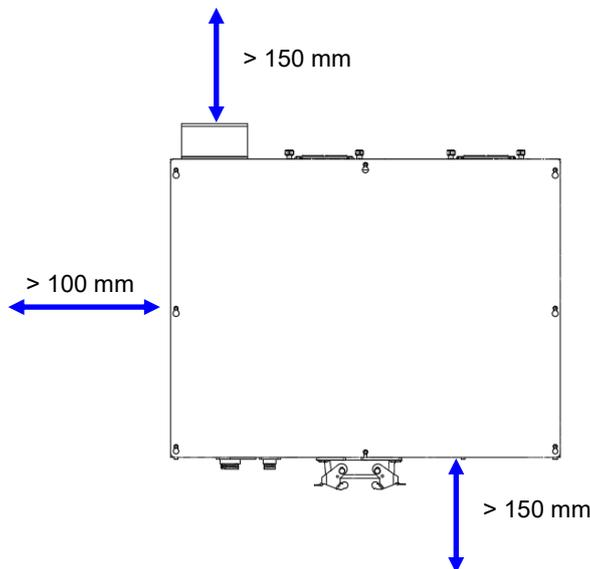

Figure 2.7 Controller installation distance
2. The ventilation holes must not be blocked during installation; please keep 150mm distance or above in controller front. Please refer to the controller installation space shown in Figure 2.7.
4. Controller power switch and other locations should be from the ground 0.6m to 1.7m between to make it easier for users to operate. Please refer to the controller installation height requirement shown in Figure 2.7